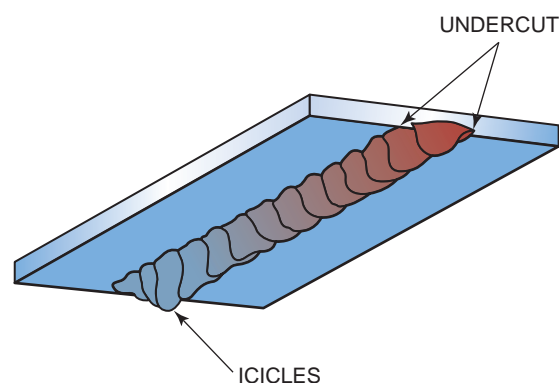

FIGURE 12-38 Overhead weld.
- *Small molten weld pool size*—The smaller size of the molten weld pool allows surface tension to hold it in place. Less molten weld pool sag results in improved bead contour with less undercut and fewer icicles, Figure 12-38.